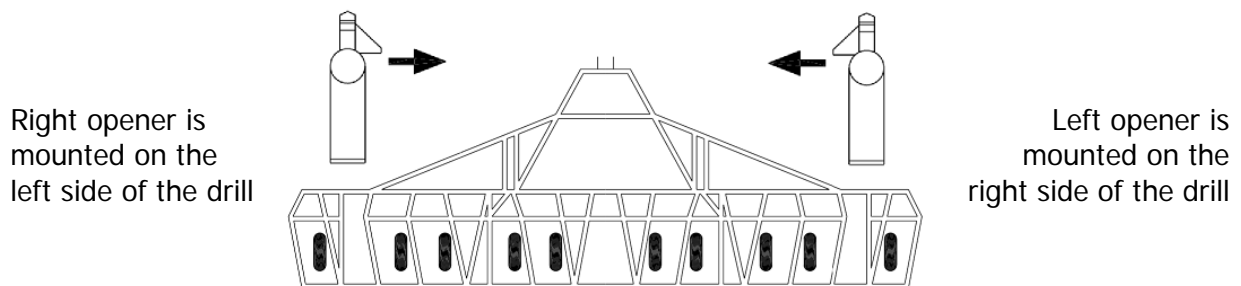

Figure 3: Opener orientation
Mounting your openers on the correct side of the drill will reduce the chances of plugging while turning with the drill in the ground. A "left" opener will have the wing pointed to the left when viewed from the back. In Figure 3, the arrows show the direction of the wing.
- 3) Carbide protected wings for side band openers can be purchased through Atom-Jet to weld on to replace broken and worn-out wings. Remember the designation of left and right wings based on the side of the drill shown in Figure 3.